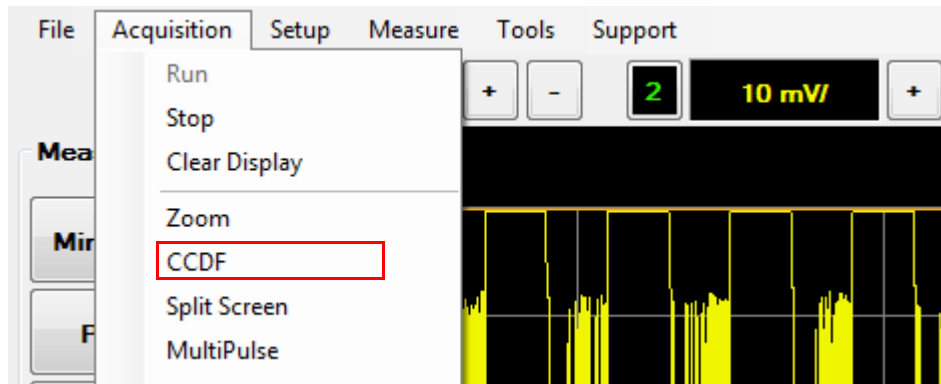

Figure 2-84 CCDF selection in the Acquisition menu
- 1 Select **Acquisition > CCDF** on the toolbar as shown in Figure 2-84.